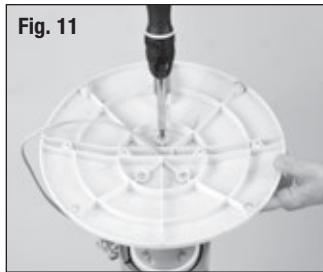

Fig. 11
- Align the 3 screw holes in the bottom of the pedestal with the 3 screw holes located on the base. Using the 3 (M5 x 12) screws and phillips head screw driver (⊗), secure the base into the bottom portion of the fan housing (Fig. 11).